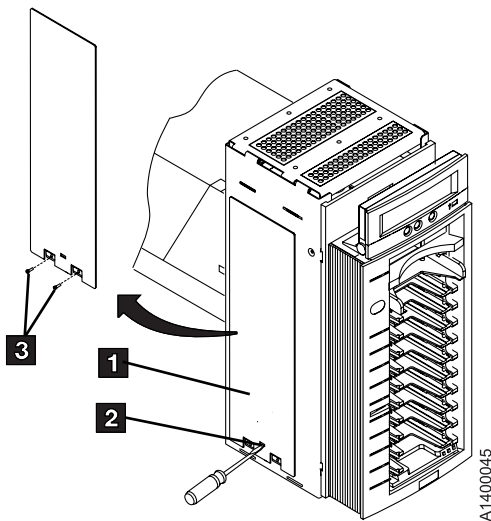

Figure 8-11. ACF Side Cover
- \_\_\_ a. See Figure 8-11. Remove the two screws **3**.